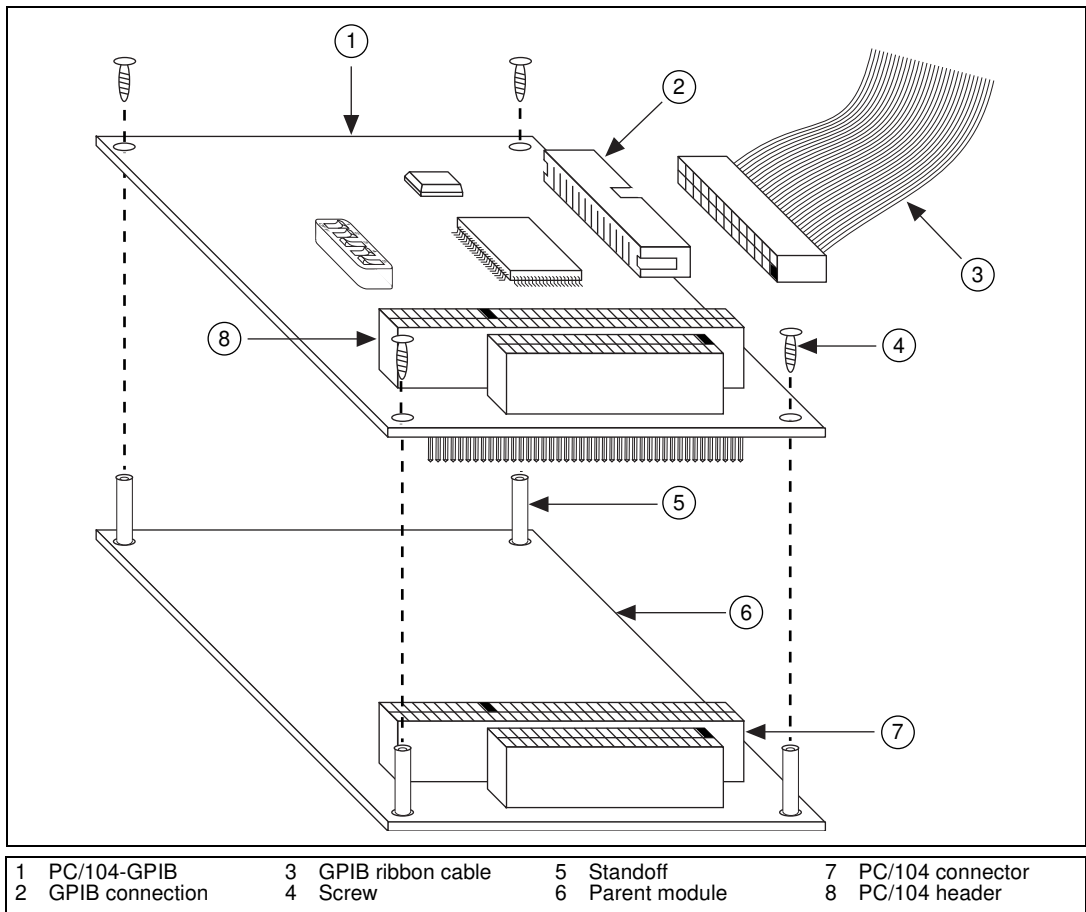

Figure 2-14. Installing the PC/104-GPIB
4. Fasten the PC/104-GPIB to the standoffs with the provided 4-40 screws. Refer to Figure 2-14.